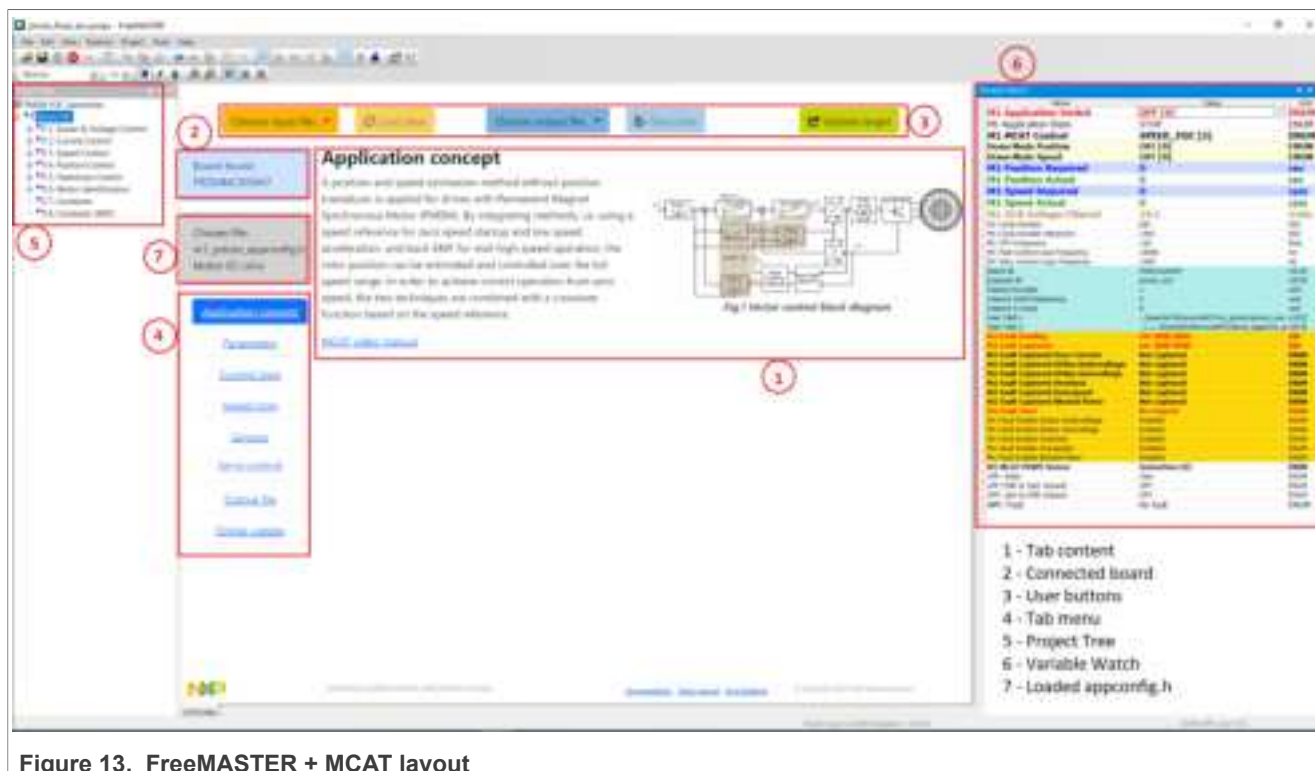

Figure 13. FreeMASTER + MCAT layout
The PMSM sensor/sensorless FOC application can be easily controlled and tuned using the Motor Control Application Tuning \(MCAT\) plug-in for PMSM. The MCAT for PMSM is a user-friendly page, which runs within the FreeMASTER. The tool consists of the tab menu and workspace as shown in Figure 13. Each tab from the tab menu (4) represents one submodule which enables tuning or controlling different application aspects. Besides the MCAT page for PMSM, several scopes, recorders, and variables in the project tree (5) are predefined in the FreeMASTER project file to further the motor parameter tuning and debugging simplify.